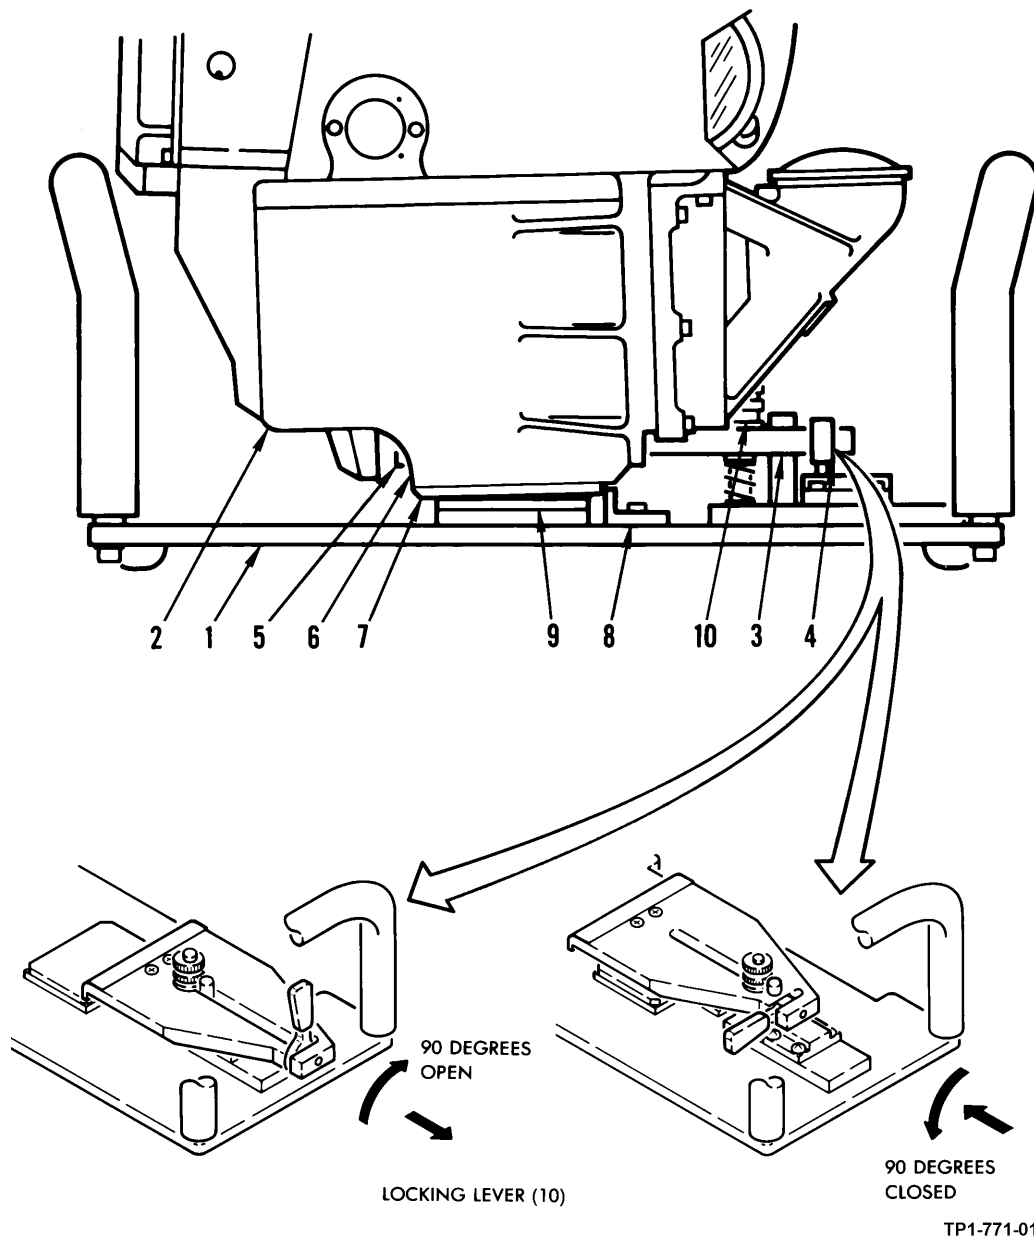

Figure 2-9. Attachment of Handling Fixture to TADS NSA
- (6) Attach handling fixture (1, figure 2-9) to TADS NSA (2) as follows:
- (a) Press down on fixture clamp arm (3) near locking lever (4) to raise fixture clamp arm bumper pad (5).
- (b) Carefully slide fixture clamp arm bumper pad over edge of TADS NSA casting (6).
- (c) Ensure that TADS NSA ballast plates (7) are resting against fixture stop bracket (8) and rubber pad (9).
- (d) Firmly seat fixture clamp arm (3) and clamp arm pad (5).
- (e) Handtighten thumb locknuts (10) until they start to depress fixture clamp arm (3).
- (f) Push (close) fixture locking lever (4) down.
- (g) Ensure that fixture locking lever (4) closes firmly at approximately a 90 degree angle from original position.